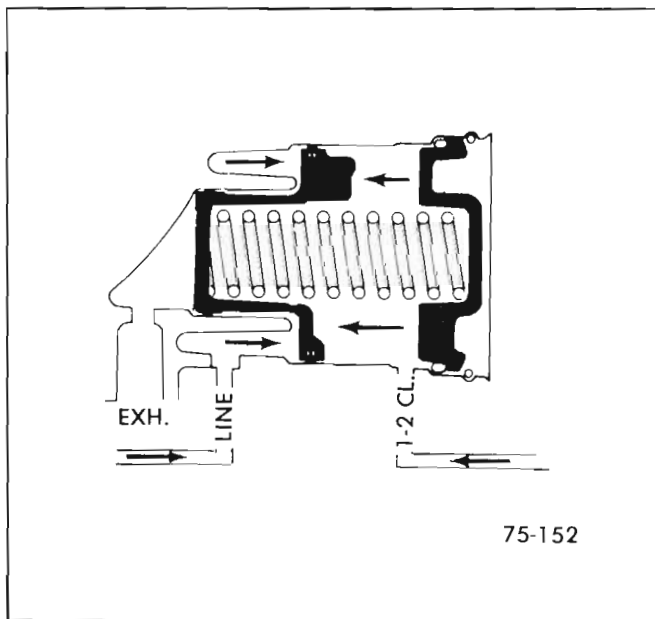

Figure 75-20 - 1-2 Accumulator
**G. 1-2 Accumulator (See Figure 75-20)**